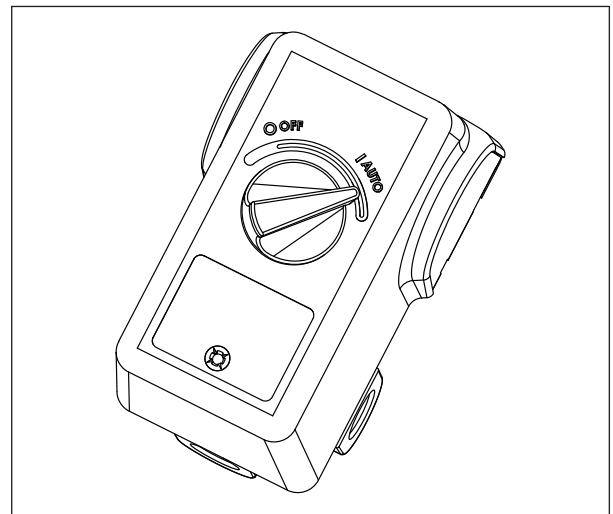

Figure 7
4. Move pressure switch to the AUTO position to run the unit (see Figure 7).
5. Run the unit for thirty (30) minutes at zero (0) PSI (under no load) to break in pump parts.
7. Change oil after first fifty (50) hours of operation. Then perform oil changes every three (3) months or two hundred (200) hours of run time, whichever comes first.